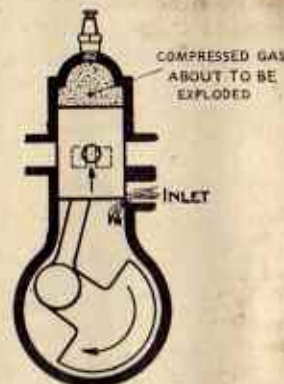

FIG. 3.
**Petrol and Air Admixture.**—The apparatus which performs this operation is called the carburettor, and its design and method of working are explained in a later chapter. The carburettor is connected to the engine by a pipe, which in turn allows gas to enter the cylinder through a second hole or "port" (see Fig. 3), cut in the wall of the cylinder slightly nearer the bottom of the piston's stroke than the port which feeds the combustion chamber in